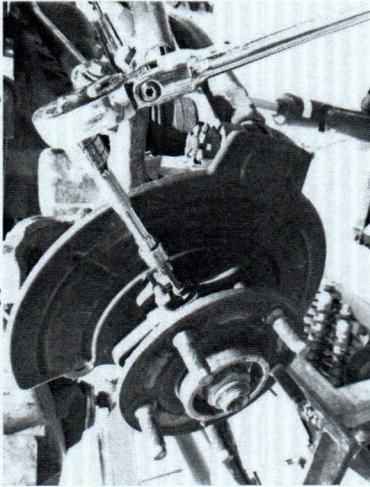

Figure 4. ABS Sensor in Knuckle
4. Loosen the ABS sensors by unscrewing the 5mm allen head bolt and then pulling the sensor carefully up and out. It will not be possible to pull the sensors through the brake backing plates until the unit bearings are removed and the brake backing plates can move. See Figure 4.